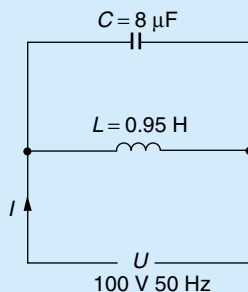

Figure 60
8. The resultant current I in Figure 60 is